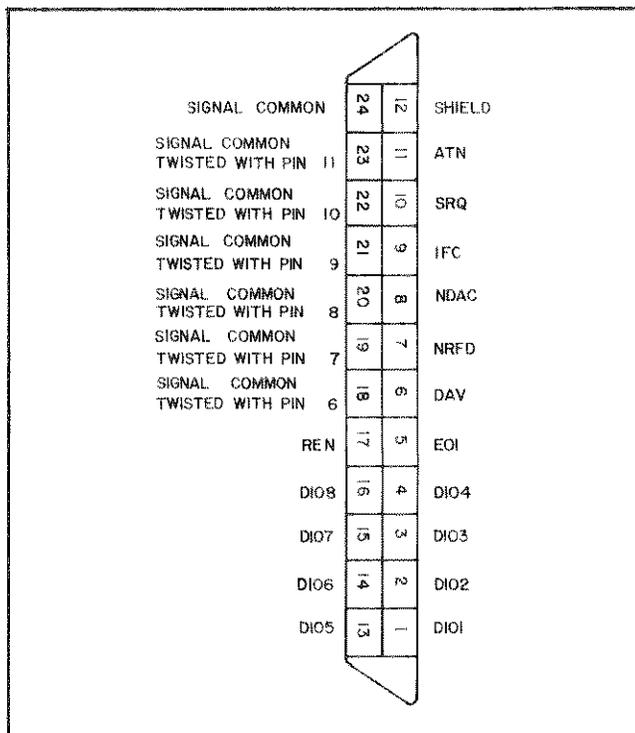

Figure 3-11. HP-IB Connector
**3-66** Connections between the 6034A and the HP-IB are made via the HP-IB connector on the rear panel. Figure 3-11 shows the signals at each of the HP-IB connector pins. The HP-IB connectors table in Section I lists cables and cable accessories that are available from HP. The 6034A HP-IB connector uses metric threads, which are colored black. Cables manufactured prior to 1975 have non-metric fasteners, which are colored silver. Do not attempt to mate non-metric (silver) fasteners with metric (black) fasteners (see accessories table for conversion kit).